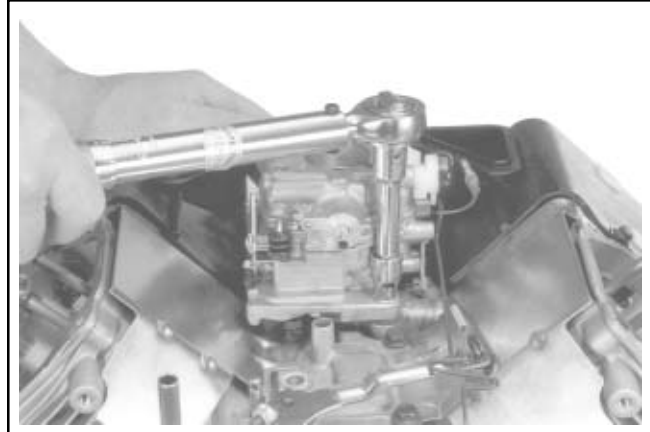
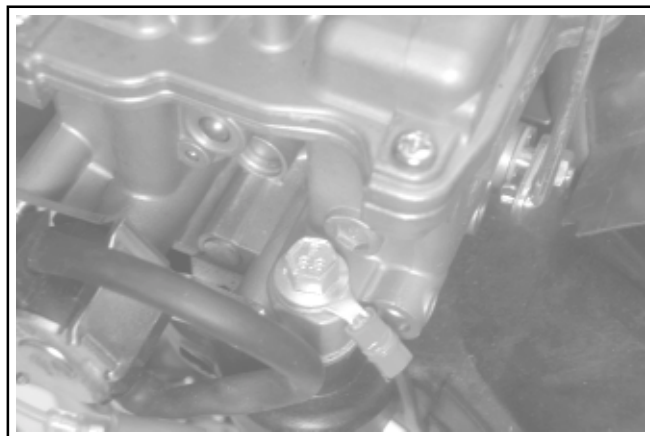

Figure 11-75. Installing Carburetor Assembly.
Figure 11-76. Ground Lead on Carburetor Mounting Screw.
2. Install the carburetor, throttle linkage and governor lever as an assembly. See Figure 11-75. If a plastic intake manifold is used and the carburetor is equipped with a fuel solenoid, attach the ground lead to the carburetor mounting screw. See Figure 11-76.